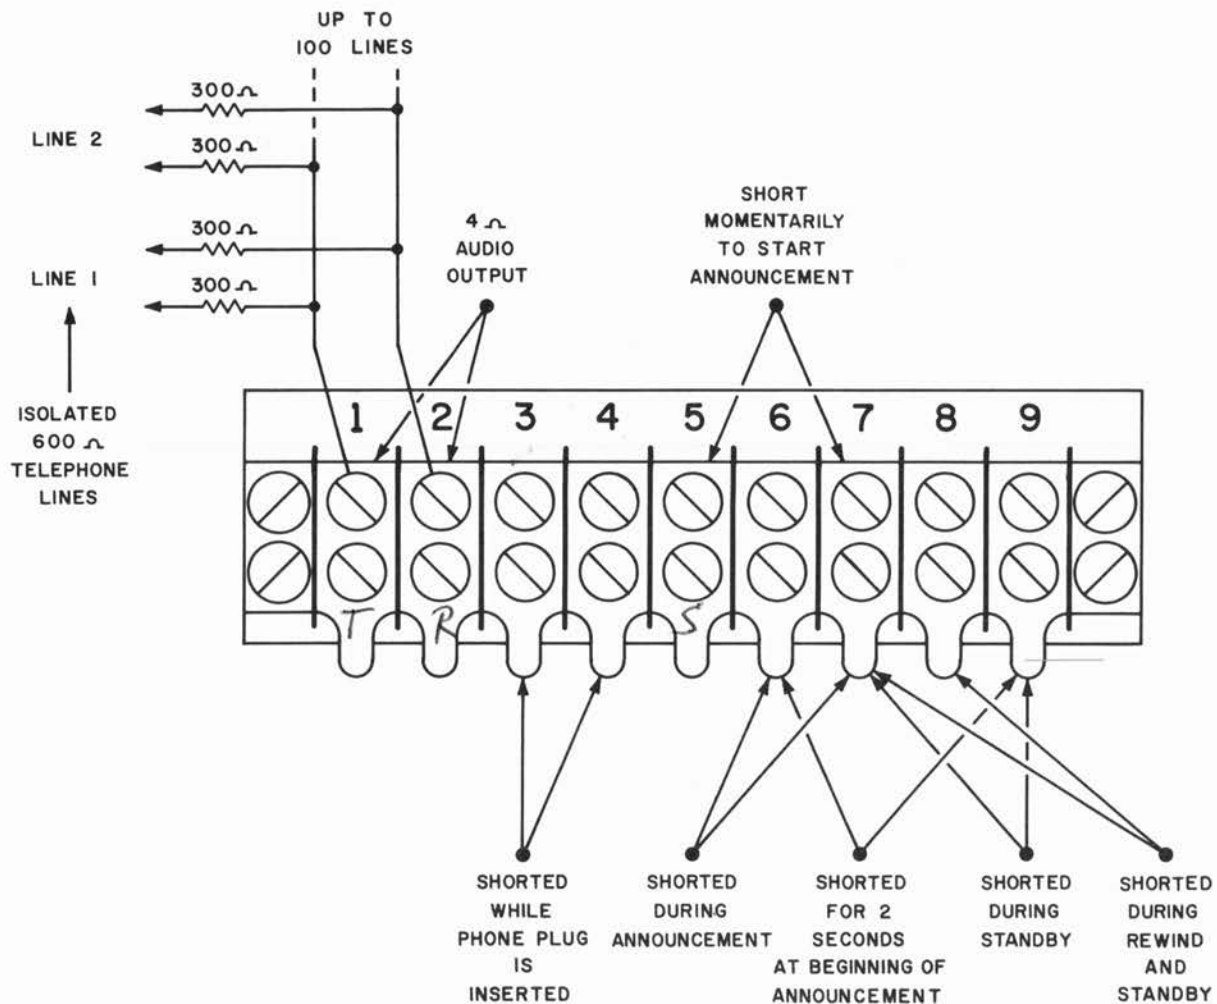

FIGURE 3-3 TELEPHONE LINE TERMINALS
Fig. 3-3 shows the control terminations provided in the Model 210DC. Any of the terminals may be grounded to the chassis, **providing that the positive (+) terminal of the 48 volt D.C. supply is connected to chassis ground in the relay rack.** If the negative (-) terminal of the 48 volt D.C.
The low (4 Ω) audio output impedance of the Model 210DC allows it to be matched electrically to any audio line by adding external resistors. For example, adding a 250 Ω resistor in series with each audio lead will provide a source impedance of 500 Ω . Fig. 3-3 shows the method for matching the output to several 600 Ω lines.
7. Use an ohmmeter or continuity checker to verify the indications shown in fig. 3-3.